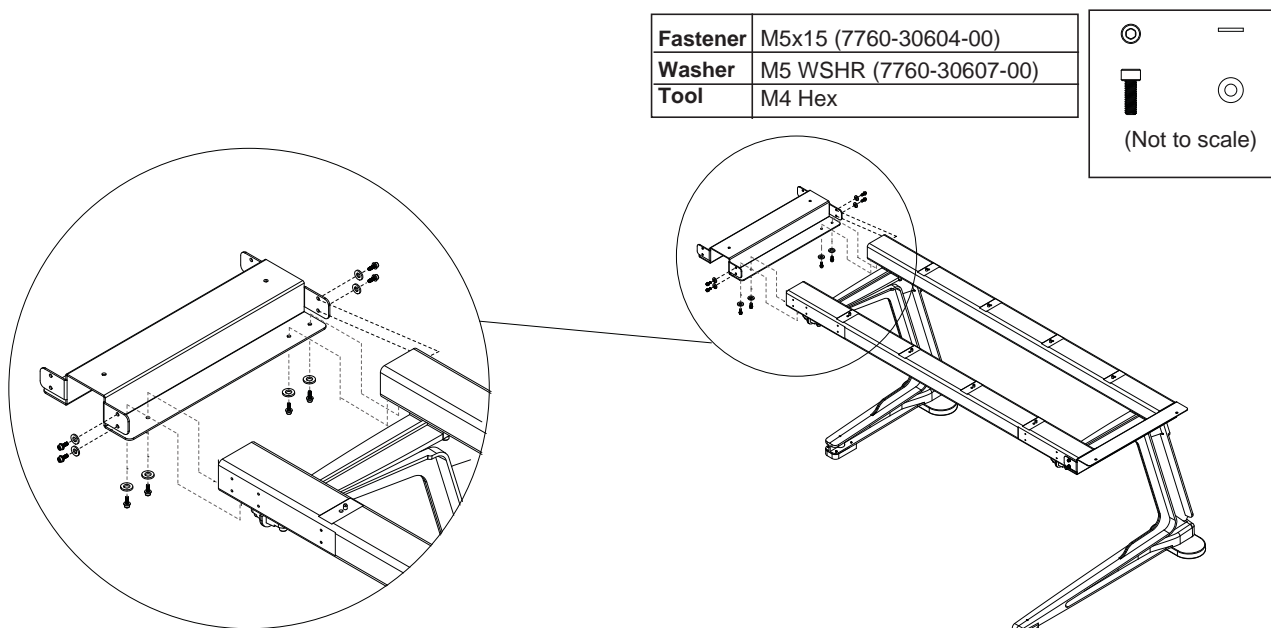

Figure 12. Attaching the Center Bracket to the right frame
- 2 Attach the Center Bracket (7600-31484-00) to the left end of the right frame using eight fasteners and washers as shown in Figure 12. Do not fully tighten all the fasteners.